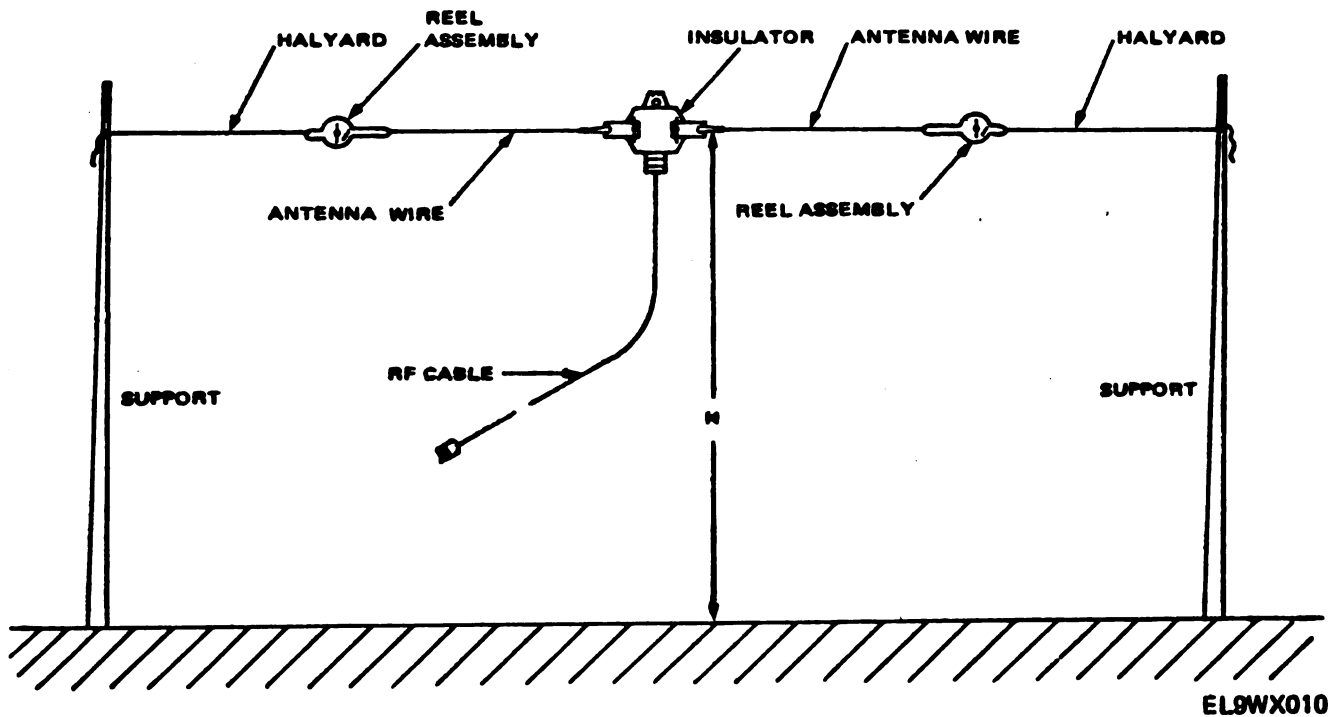
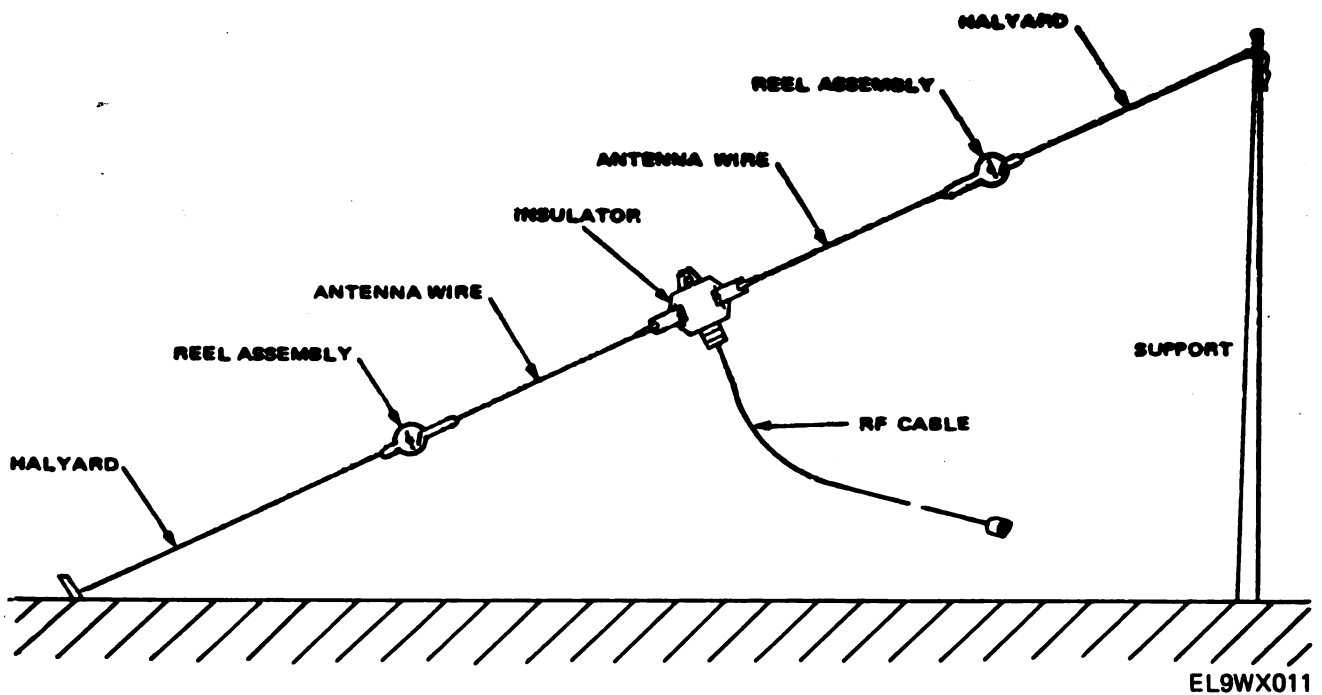

Figure 2-8. Two-Support Dipole Antenna
Figure 2-9. Sloping Dipole Antenna
- (c) Temporarily fasten insulator (fig. 2-4) to one of the desired supports (fig. 2-8 and 2-9) that will later be used to fasten each end of antenna.
- (k) Tie the halyard to the best available supports (tree, fence post, vehicle, etc) at a height of 4 feet or higher. Try to select supports that will enable the height of the insulator at the center of the dipole to be $\frac{1}{3}$ the antenna wire length. If two properly oriented supports are available, erect the two-support dipole antenna as illustrated in figure 2-8. If only one support is available, erect a sloping dipole or inverted V dipole as shown in figures 2-9 and 2-10.